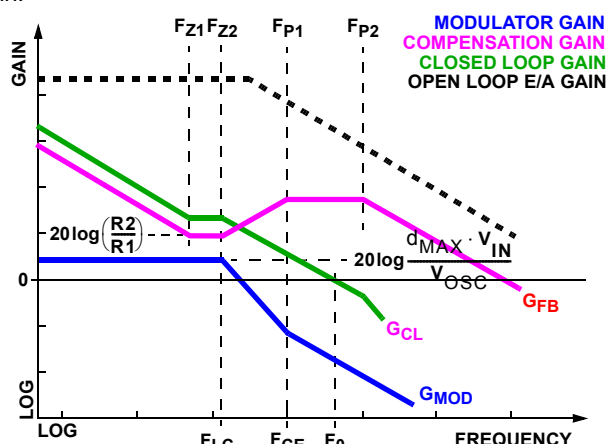

FIGURE 10. ASYMPTOTIC BODE PLOT OF CONVERTER GAIN
Figure 10 shows an asymptotic plot of the DC/DC converter's gain vs frequency. The actual Modulator Gain has a high gain peak dependent on the quality factor (Q) of the output filter, which is not shown. Using the above guidelines should yield a compensation gain similar to the curve plotted. The open loop error amplifier gain bounds the compensation gain. Check the compensation gain at F_{P2} against the capabilities of the error amplifier. The closed loop gain, G_{CL} , is constructed on the log-log graph of Figure 10 by adding the modulator gain, G_{MOD} (in dB), to the feedback compensation gain, G_{FB} (in dB). This is equivalent to multiplying the modulator transfer function and the compensation transfer function and then plotting the resulting gain.